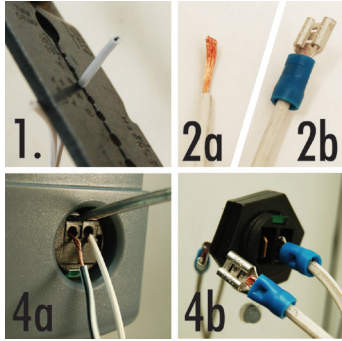

Fig.3
2. Refer to Fig.3 for visual aid: